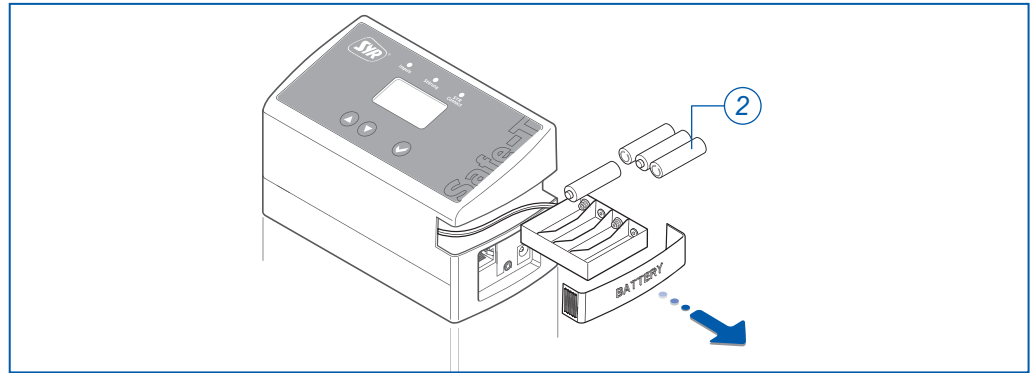

Fig. 9: Inserting batteries
- ▶ Insert four batteries (2, fig. 9; size AAA) in the battery compartment of the control unit. Observe the polarity!